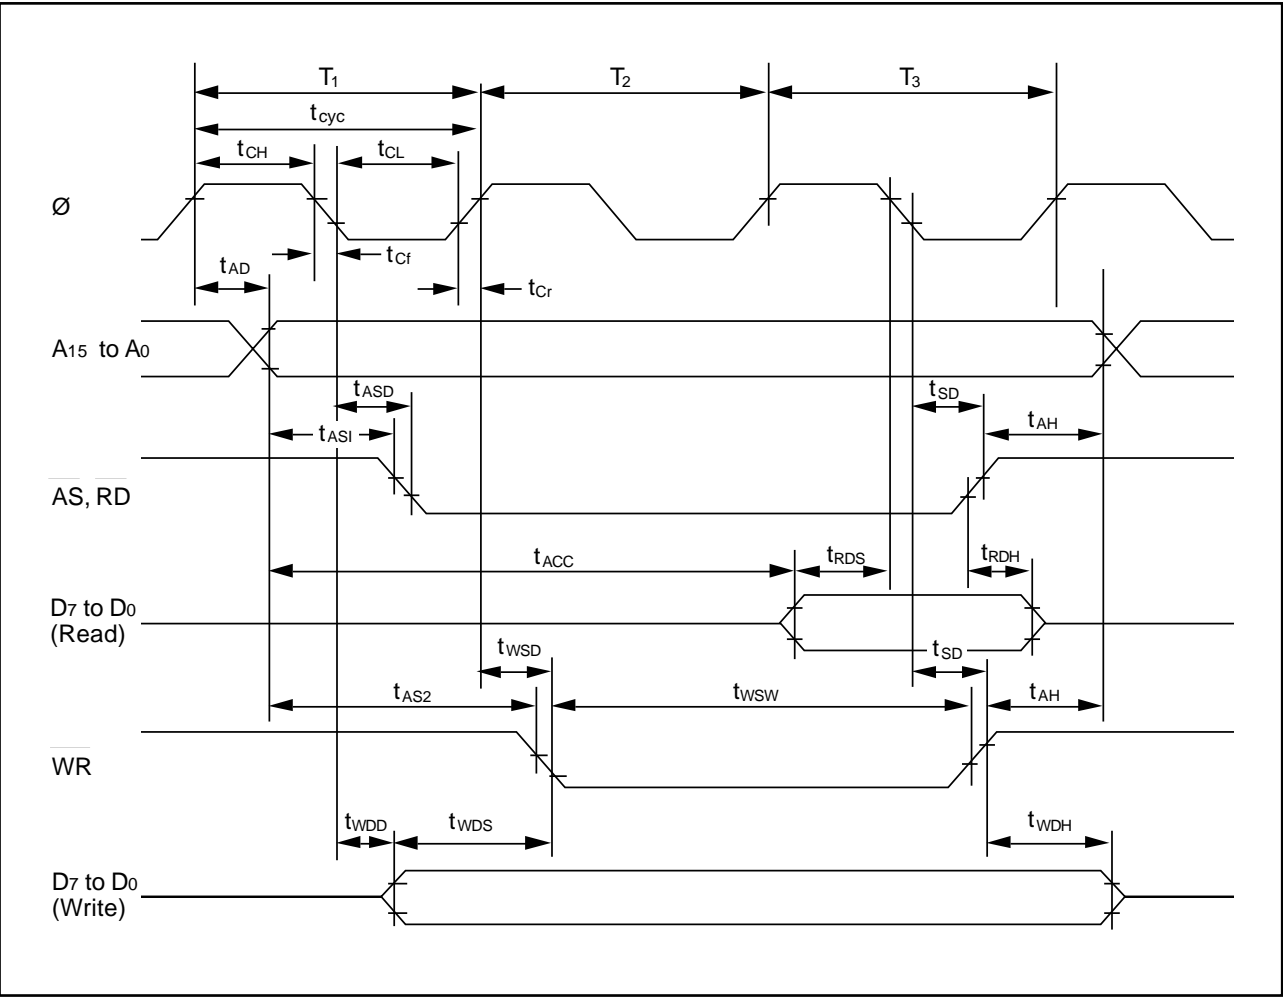

Figure 16-4. Basic Bus Cycle (without Wait States) in Expanded Modes
16.3.1 Bus Timing	Figures 16-4 to 16-5